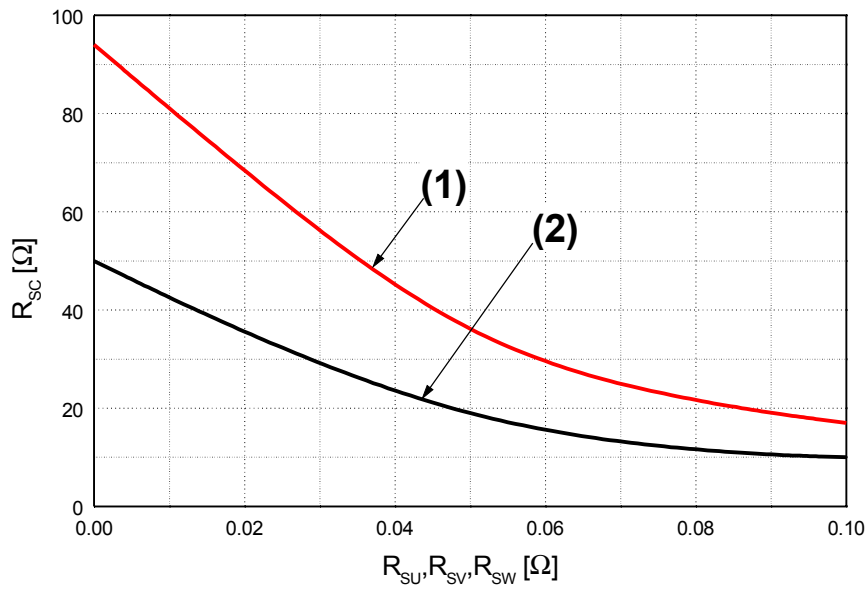

Fig. 7. R_{SC} Variation by change of Shunt Resistors (R_{SU} , R_{SV} , R_{SW}) for Short-Circuit Protection
- Short-circuit current protection is functioning only at the low-sides. It would be recommended that the value of the external sensing resistor (R_{SC}) should be selected around 50 Ω in order to make the SC trip-level of about 22.5A at the shunt resistors (R_{SU}, R_{SV}, R_{SW}) of 0Ω. For the detailed information about the relationship between the external sensing resistor (R_{SC}) and the shunt resistors (R_{SU}, R_{SV}, R_{SW}), please see Fig. 7.